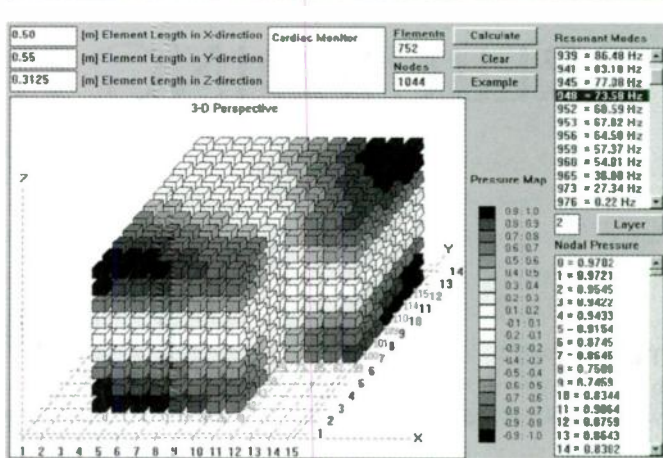

FIGURE 10: First-order tangential mode of 73.6Hz developed between corners A to E and the ceiling.
5. *Figure 10* shows the first-order tangential mode of 73.6Hz developed between corners A and E and the ceiling.